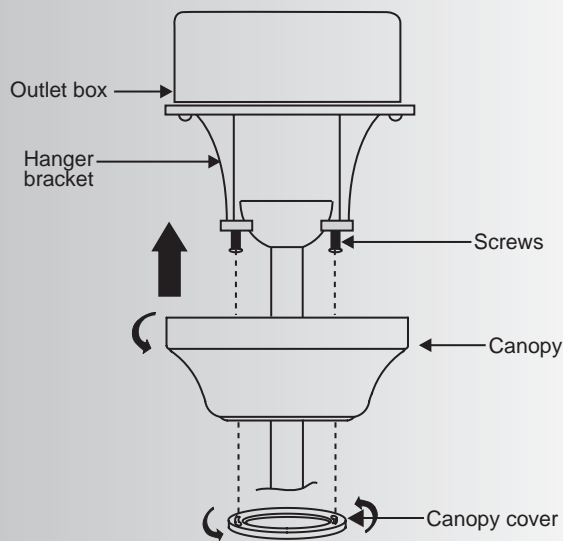

Fig. 15
Step 2. Slide the canopy up to ceiling and over the two screws on hanger bracket. Rotate canopy clockwise, next, while holding the canopy with one hand, slide the canopy cover over the screws and rotate clockwise until tight. **NOTE:** adjust the canopy screws as necessary until the canopy and canopy cover are snug. (Fig.15)